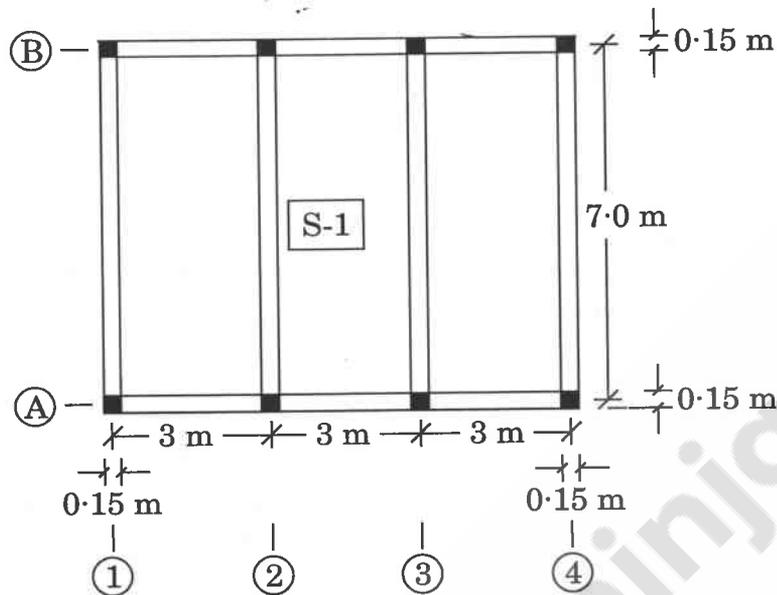

Figure 4(a)
- Q4. (a) Design slab panel S-1 (by Limit State Method) for flexure only, as shown in Figure 4(a). All slab panels are supported and monolithic constructed with RCC frame structure. Following are the design considerations :